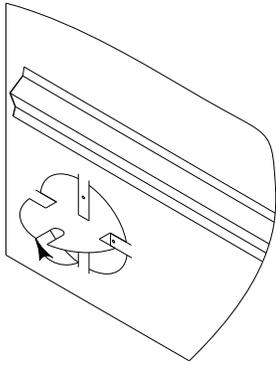

Figure 1 Retrait du panneau amovible /
3. The intake duct must be attached to the left of the Catalytic Opel2 and Catalytic Opel3 fireplace. Start by removing the knockout on the side of the fireplace (see Figure 1). Bend out the four tabs to 90°.